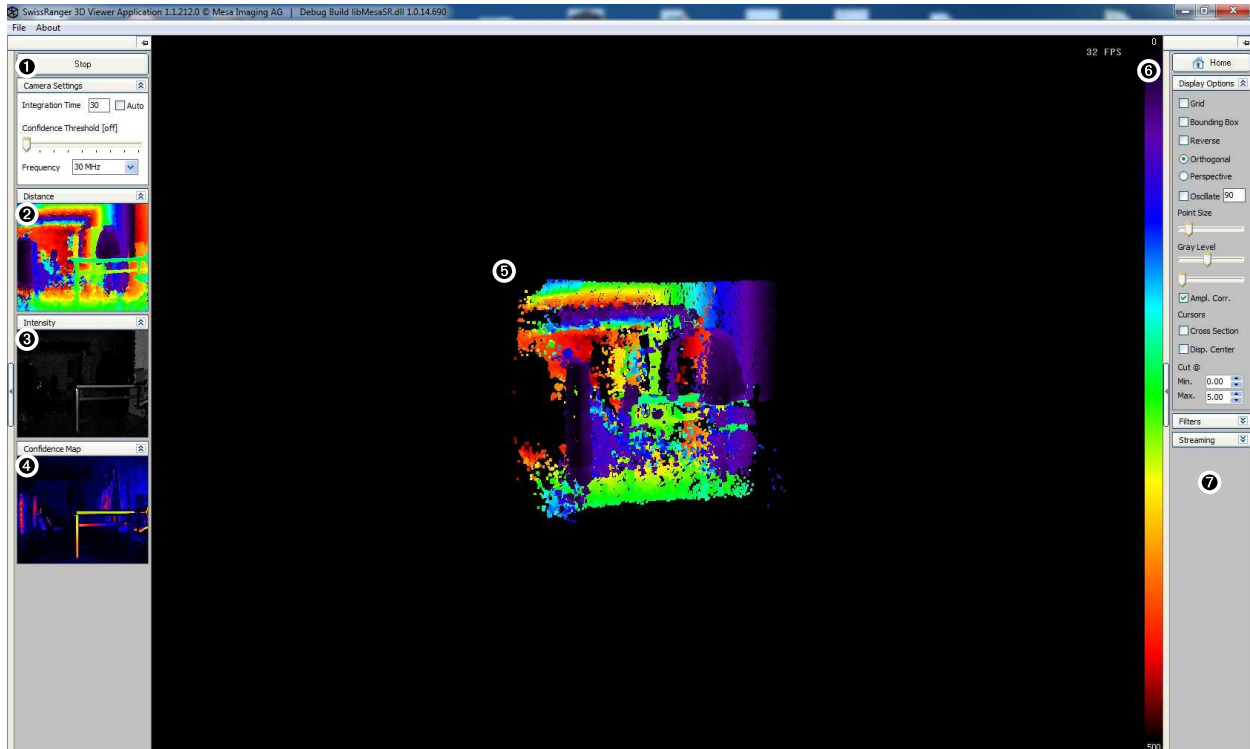

Figure 13.3: The SR\_3D\_View Interface showing distance, gray scale and confidence map images on the left hand side and 3D projection in the main window.
As shown in figure 13.3, the distance (❷), gray scale (❸) and confidence map (❹) images will appear on the left hand side of the main window. Those images are unadjusted raw pixel arrays, whereas the 3D projection of the central image (❺) has been adjusted by the coordinate transformation function in the driver to compensate for radial distortion in the optics, removing the “pin cushion” effect. Here the full  $(x, y, z)$  coordinate vectors are displayed. The coloring of the points can be selected as a color proportional to the  $z$ -value of a pixel (see the color bar ❻ that shows the color spectrum from zero to full phase distance) or as amplitude values.